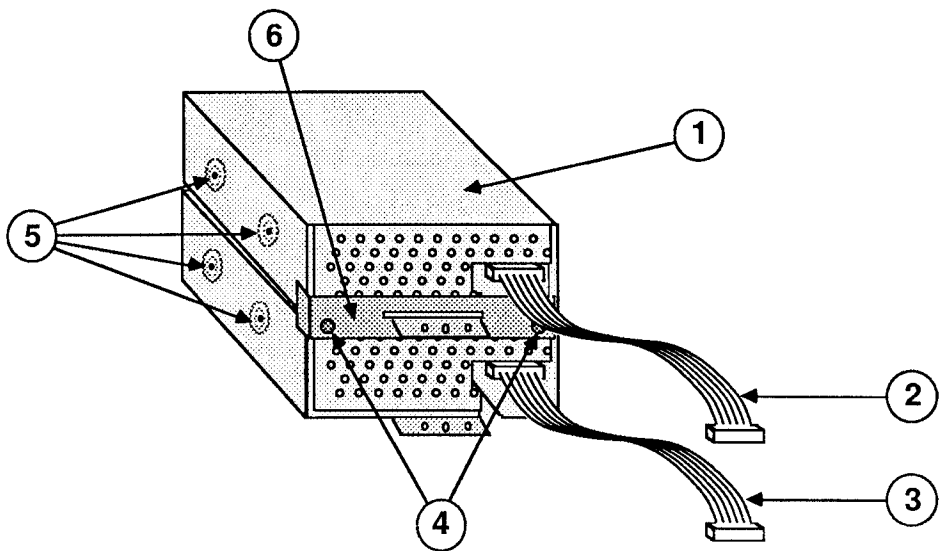

FIGURE 7
- IPL.13 Dual Internal 800K Drives (Figure 7)
❑ MACINTOSH SE – DUAL INTERNAL 800K DRIVES (Figure 7)